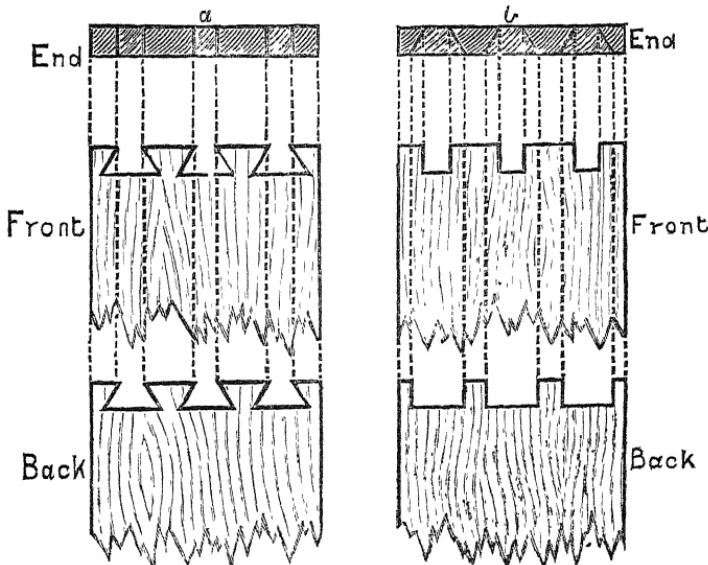
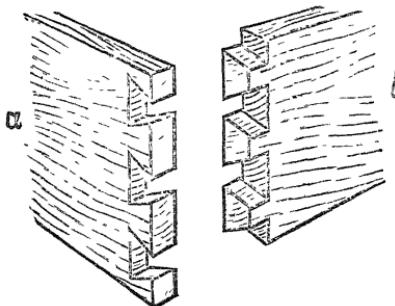
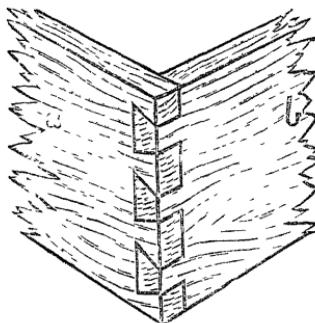

FIG. 43.
FIG. 44.
FIG. 45
complished, you will find it easier each time you have one to do; and it gives your work such neatness and solidity that we are sure you will introduce it into all your best work. In Fig. 43, *a* and *b* show how the marking and the sawing must be done. Try it first with wood from  $\frac{3}{4}$  inch to 1 inch thick. You see it has to be so arranged
*a* in Fig. 43, then do the same for *b*. Next, cut very carefully with a tenon-saw the slits for each tail-piece; then with a mortise-chisel cut along
which this fits is represented in its various stages at *b*, Fig. 43. Fig. 44 shows *a* and *b* cut and smoothed up ready to fit together, as in Fig. 45; the ends will probably stand from  $\frac{1}{8}$  to  $\frac{1}{4}$  of an inch